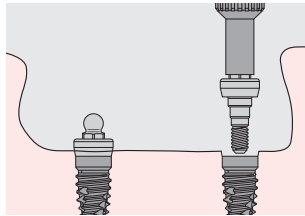

Fig. 2
- (Fig. 2): Manually insert the selected Dalbo® Certain® Abutment into the implant using the O-Ring/Dal-Ro screwdriver (PAD01).